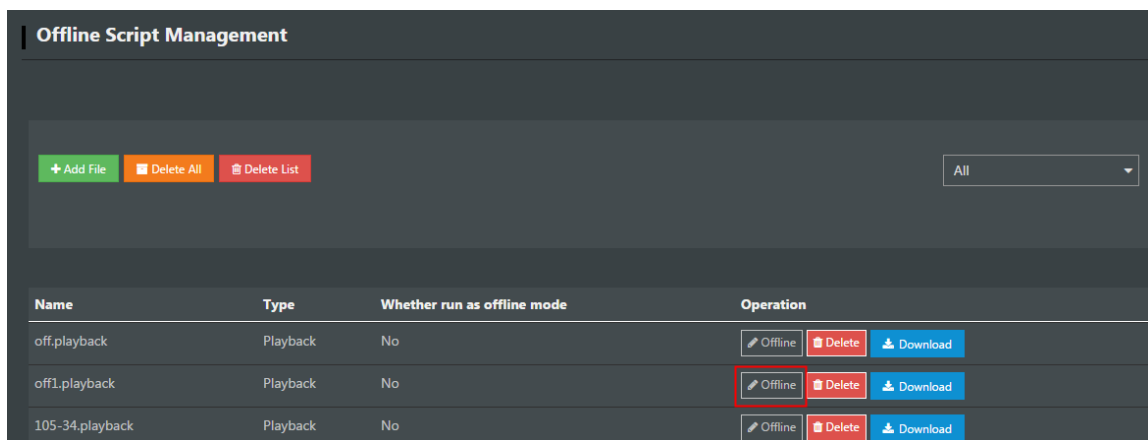

Figure 6.36 Status of the uploaded files
Step 8 Select the uploaded files that need to be offline executed on the **Offline Script Management** page, and click **Offline** to make the files in offline mode, as shown in Figure 6.36.